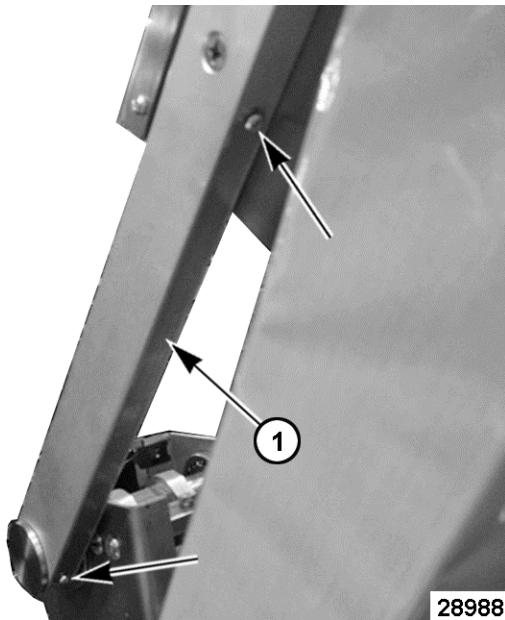

Fig. 49
- B. Fully raise clamshell to access the left arm wireway cover on the bottom of arm. Remove wireway cover (1, Fig. 49) from the bottom of left arm.